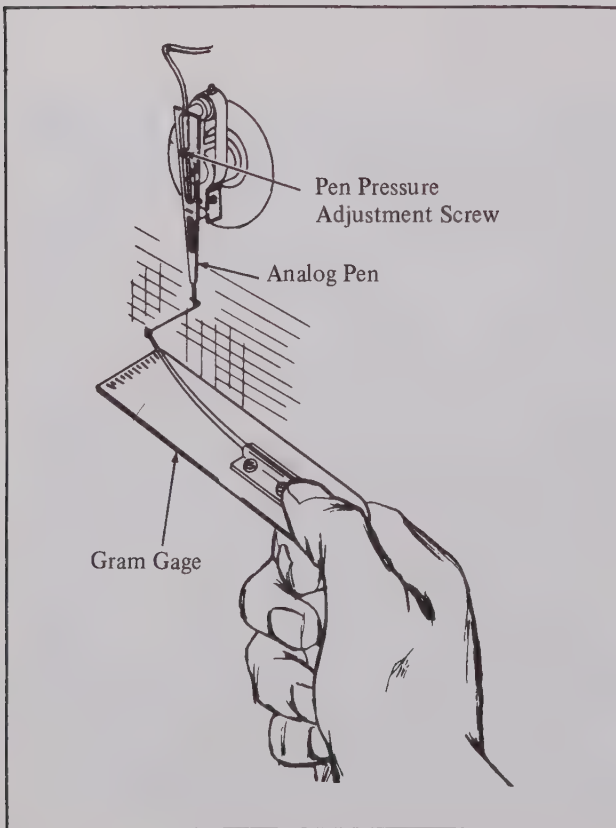

Figure 4.5. Pen Pressure Measurement
1. Operate recorder. (See Figures 4.5 and 4.6)